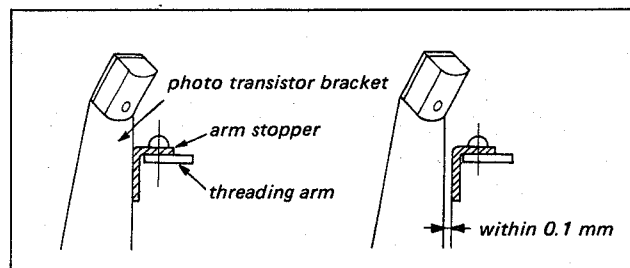

Fig. 4-12. When (A) portion is in contact
Requirement-1 ; When (A) is in contact, Fig. 4-12, (B) should be in contact or the clearance should be less than 0.1 mm.